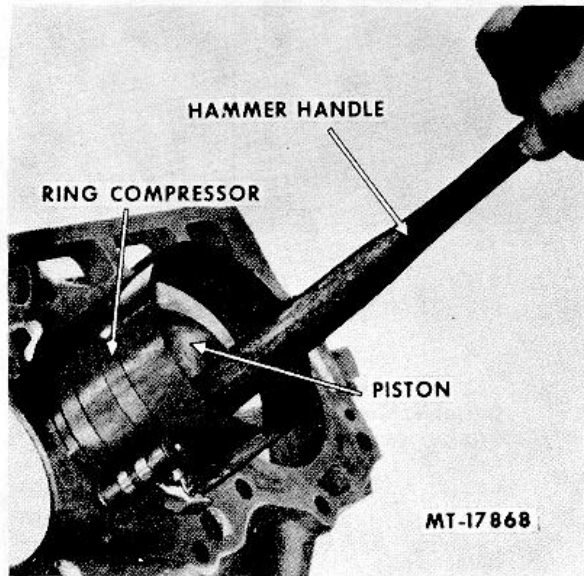

Fig. 117. Installing Piston and Connecting Rod Assembly
- c. Coat No. 1 cylinder bore with clean engine oil. Position piston and rod assembly in cylinder bore with dome side of piston (marked "UP") toward centerline of engine block. Carefully push piston and rod assembly through ring compressor (Fig. 117) until piston is in cylinder bore. Avoid striking cylinder bore with connecting rod.